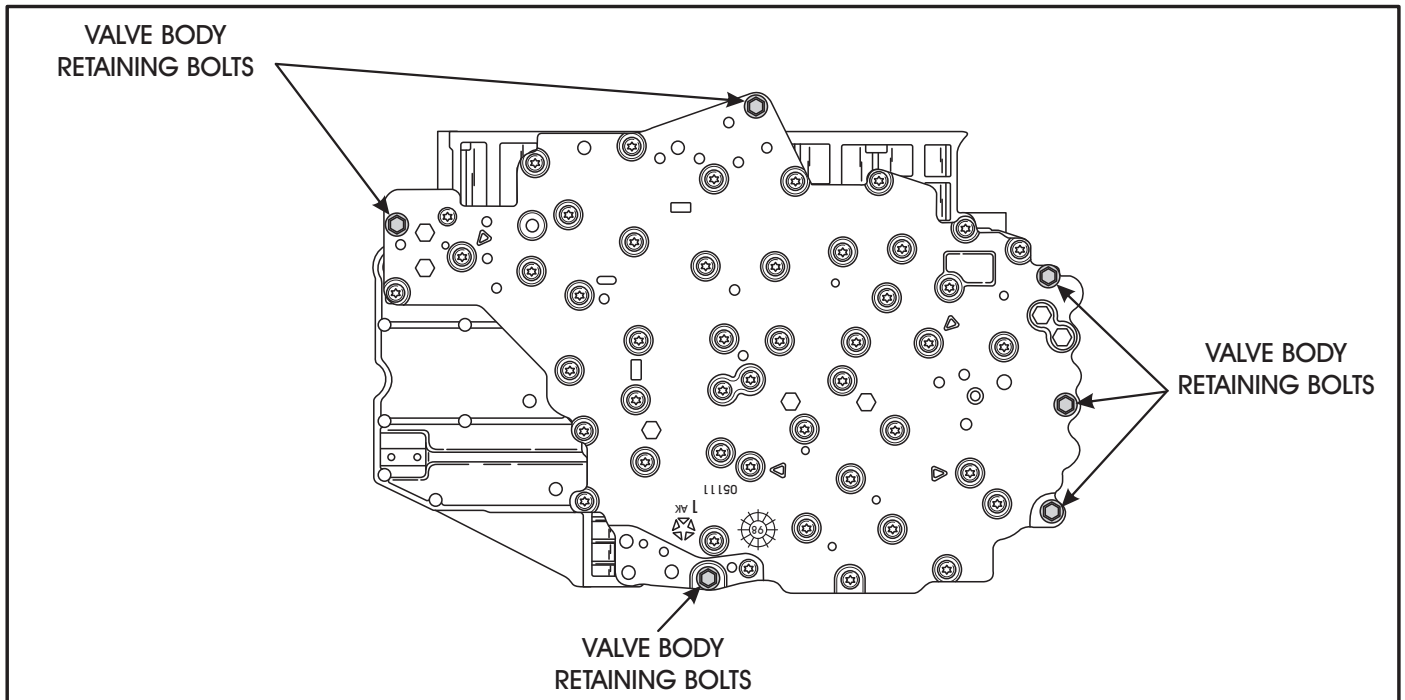

Figure 33
14. Remove the six valve body retaining bolts that are illustrated in Figure 33, using 8mm socket.